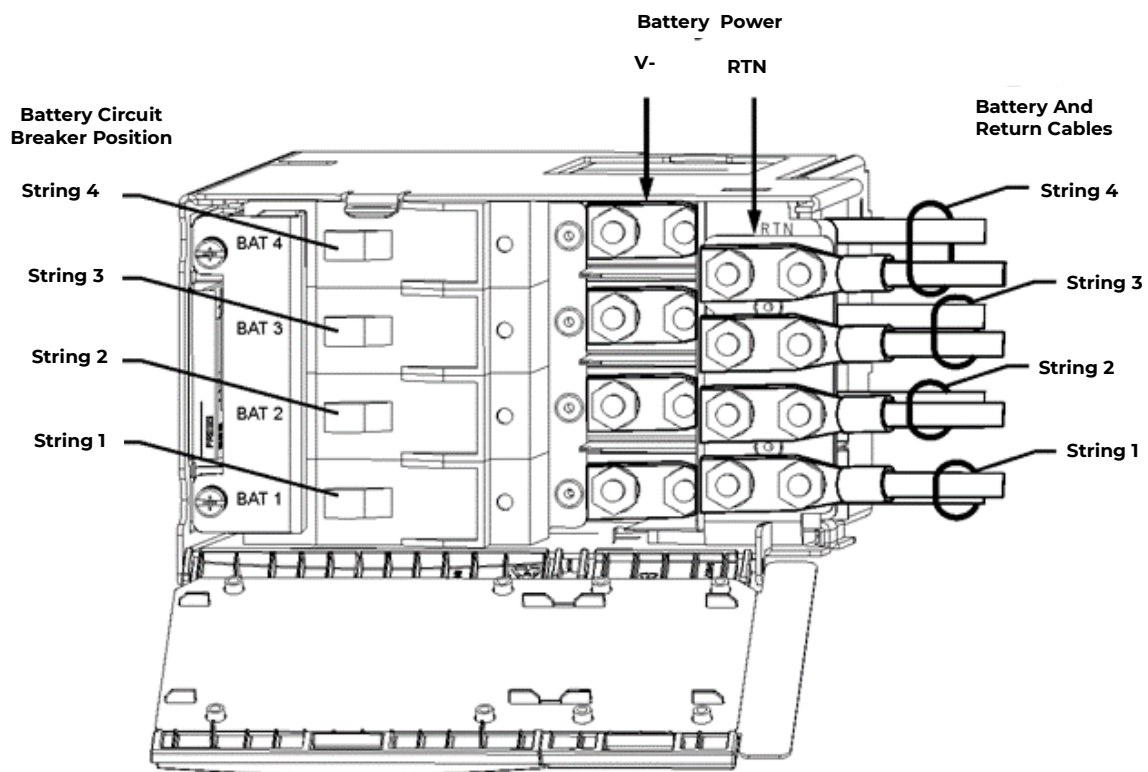

Figure 5-19b: Battery String Connections – Single-Slot, No GMT Fuses
3.	Make battery string V- and RTN connections to the Distribution Module. Refer to the appropriate Figures 5-19b through 5-19e for battery string connections to Distribution Modules.